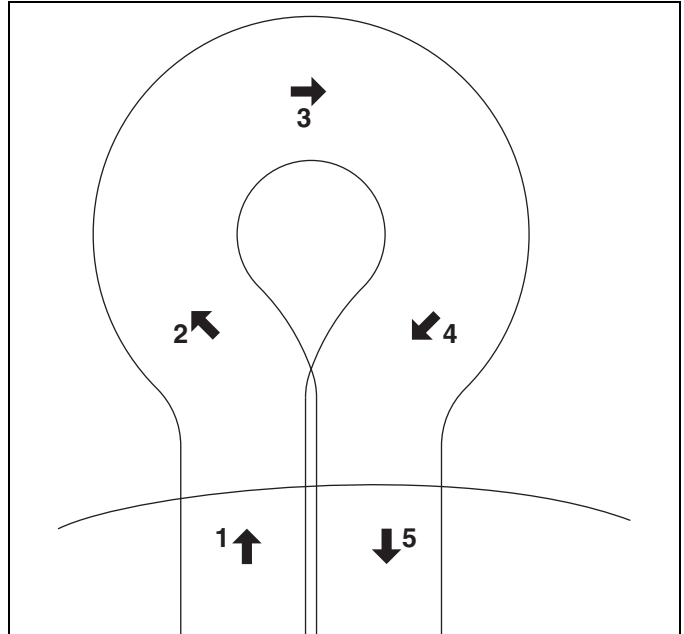

Figure 6E
- e. To turn to the right, start by turning mower slightly to the left **(2)**. When the mower has moved approximately 1/2 its own width to the left, swing it around quickly to the right **(3 and 4)**, guiding the mower with your right hand. This method makes it possible to turn around quickly with very few steps. **[Figure 6E]**